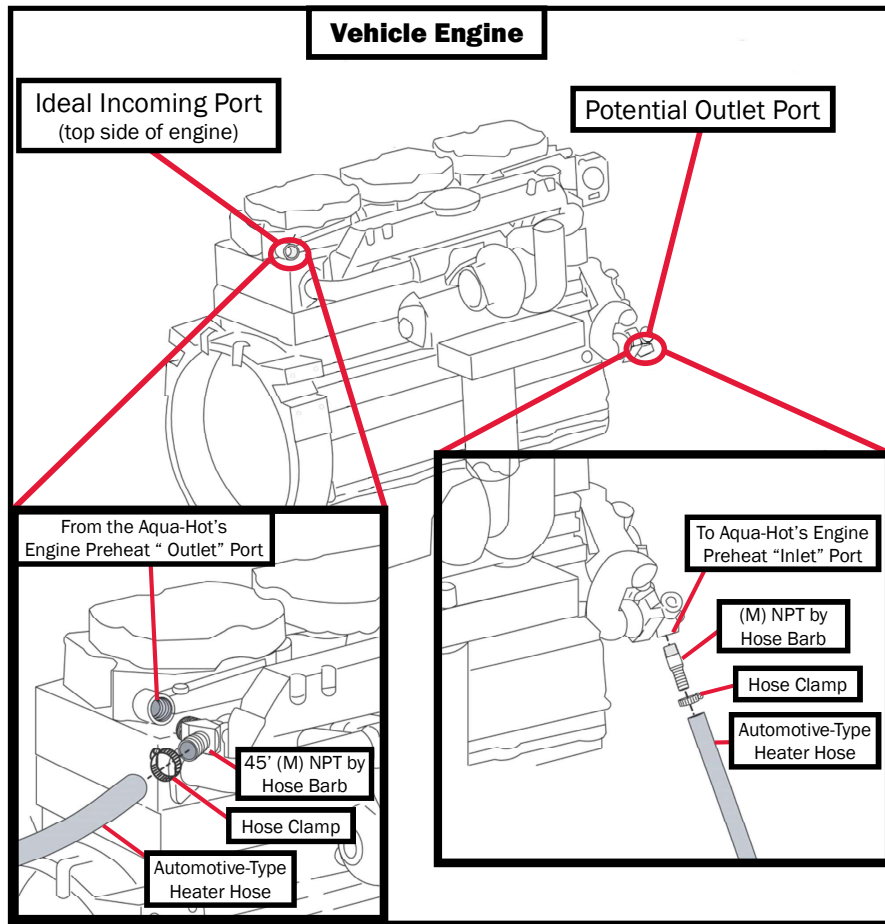

Figure 39
- The inlet and outlet ports on the vehicle's engine should be kept as far apart as possible. This will ensure that the entire engine is thoroughly preheated. See Figure 39.
- The engine's inlet port is where the heated coolant is transported to the engine block from the Aqua-Hot. This port should be a high connection point on the engine block. Refer to Figure 39.
- The engine's outlet port is where the engine's coolant is transported to the Aqua-Hot. This port should be a low connection point on the engine block or a pressure outlet port on the engine's water pump (Figure 39).
NOTE: The labels should indicate whether the plumbing line is transporting coolant to the Aqua-Hot, or if it will be transporting heated coolant to the vehicle's engine. Reference Figure 39.
5. Install and clamp both the inlet and outlet engine plumbing lines, automotive-type heater hoses to the engine's plumbing fittings. Reference Figure 39.